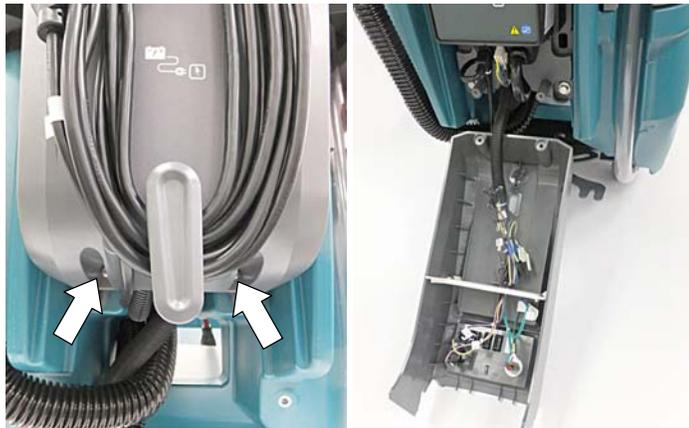

Fig. 19
1. Remove the two lower torque screws at bottom of control console and carefully lower console cover as shown (Figure 19). T-25 torque screwdriver required.